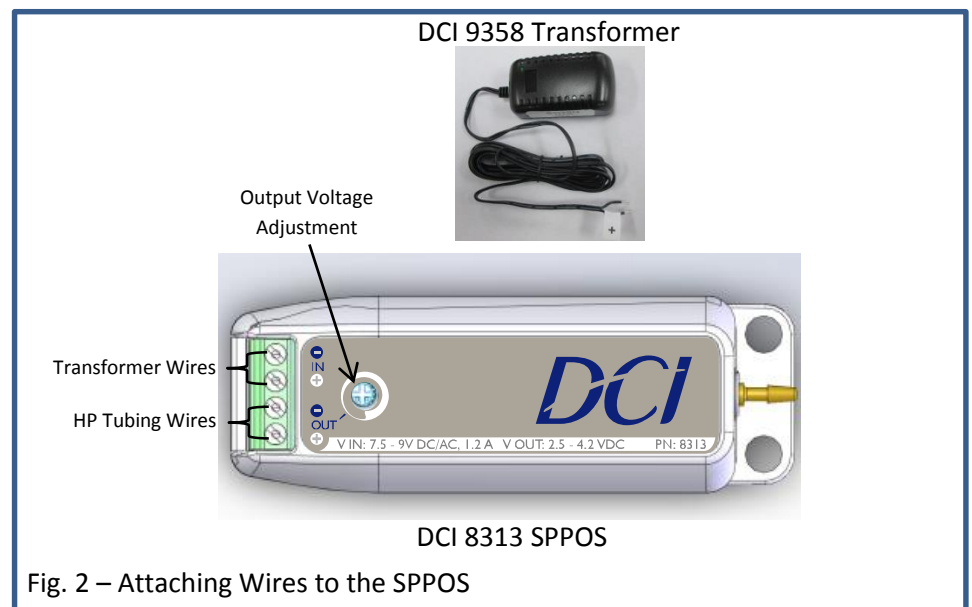

Fig. 2 – Attaching Wires to the SPPOS
- Attach the transformer wires and the handpiece tubing wires to the SPPOS terminals as shown in Fig. 2.
- The new DCI SPPOS has a voltage adjustment feature. This feature allows the user to set the necessary output voltage based on the handpiece manufacturer requirements. Use a #2 slotted precision screwdriver to adjust the SPPOS output voltage by accessing the adjustment potentiometer, and turning clockwise to increase or counterclockwise to decrease the output voltage. Output voltage is measured at the terminals labeled "OUT". See Fig. 2.